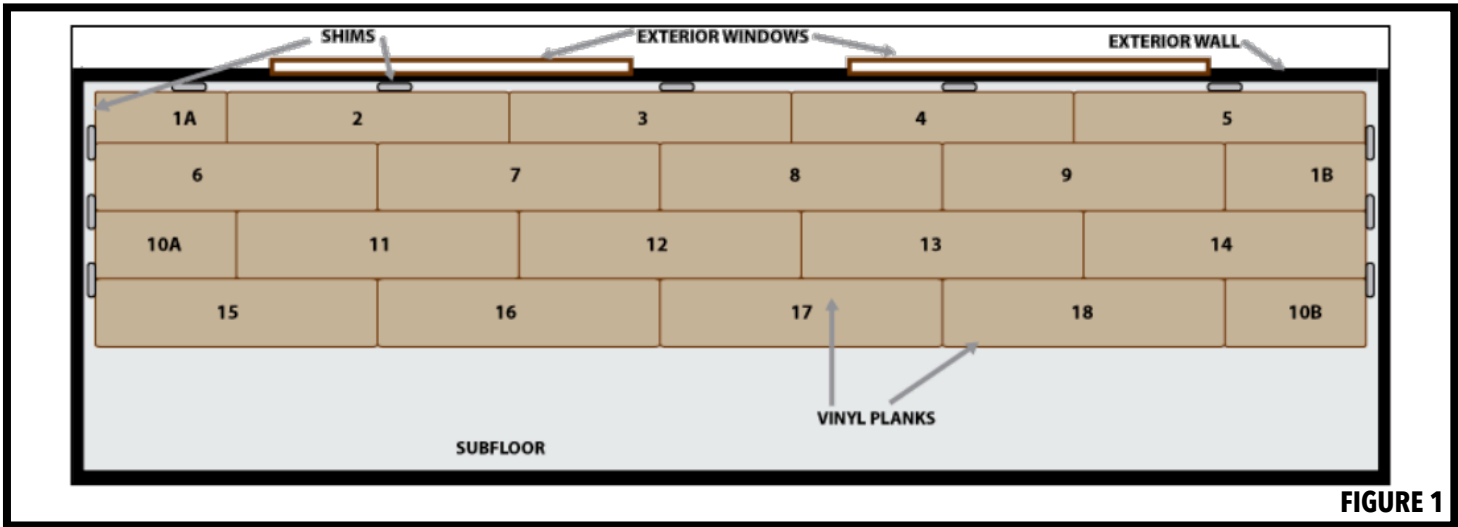

FIGURE 1
1. Begin installation parallel to the long dimension of the room, preferably parallel with the light sources (windows & doors) (Refer to Figure 1). Snap a chalk line at the starting point to maintain alignment. Use planks mixed in from four or five cartons to achieve the ideal random pattern.
6. The remaining plank-cutting cut off from the last plank in the first row may serve as the first plank in the second row provided it is at least 8" (20.3cm) long. Always stagger end joints from row to row a minimum of 8" (20.3cm) long. (Refer to Figure 1)
IT IS VERY IMPORTANT TO MAKE SURE THAT THE FIRST TWO ROWS ARE STRAIGHT AND SQUARE, OR THIS WILL ADVERSELY EFFECT THE ENTIRE INSTALLATION. THE FIRST TWO ROWS ARE THE "INFRASTRUCTURE" FOR THE REST OF THE INSTALLATION. NOTE TO CHECK STRAIGHTNESS AND SQUARENESS REGULARLY. (Refer to Figure 1)